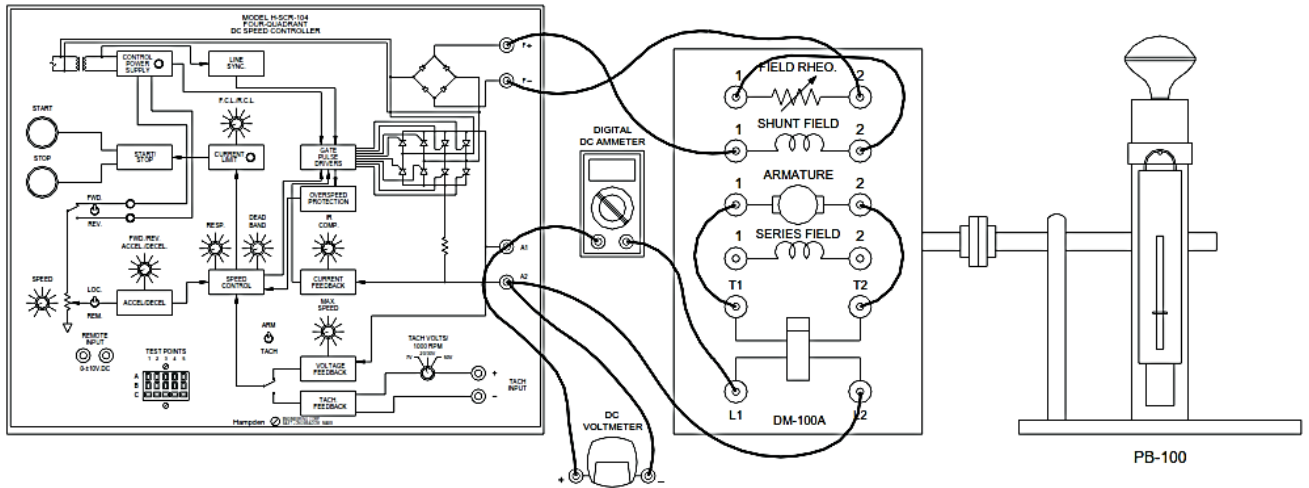

Figure 1-2
Step1: Connect the DC motor to the H-SCR-104 and couple the Prony Brake PB-100 to the motor as shown in Figure 1-2. The motor's field rheostat should be fully counterclockwise to its minimum resistance position.
Step2: Plug in the H-SCR-104. Turn the MAX SPEED knob fully clockwise and the SPEED KNOB fully counterclockwise. Be sure all fault switches are off, the feedback switch is in the ARM position, and the speed CONTROL switch is in the LOCAL position. Set the IR, DEADBAND (DB), ACCEL/DECEL, RESP and CL knobs to their respective mid-positions.